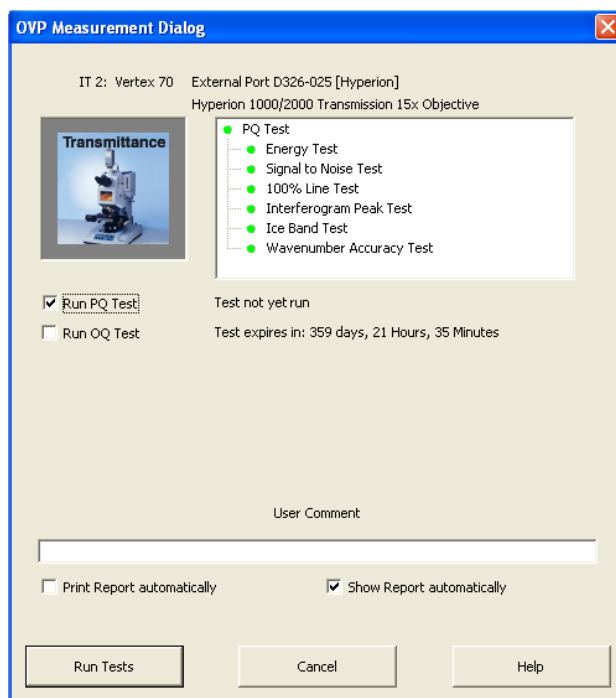

Figure 12: Starting the PQ Test
- As a result, the *OVP Measurement Dialog* opens. See figure 12.
Depending on your settings in the *OVP Measurement Dialog* window (figure 12), the test report is displayed and/or printed automatically immediately after the PQ test.
Depending on your settings in the *OVP Measurement Dialog* window (figure 12), the test report is displayed and/or printed automatically immediately after the OQ test is finished.